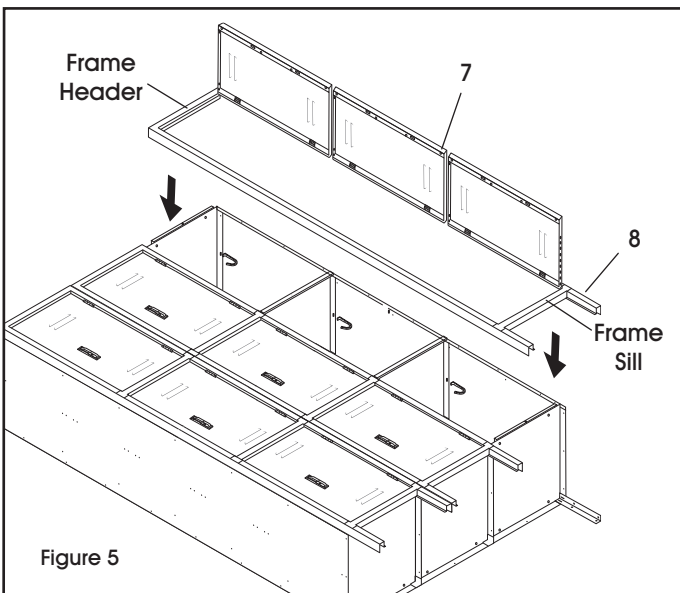

Figure 5
9. Place door and frame assembly (7 and 8) over the locker body. Make certain body sides are inside the frame and not between the frame. Attach top to frame header and bottom to frame sill (one bolt each). Finish by attaching door and frame assembly to the sides of the locker body (bolts will be shared with the door and frame on either side). (See Figure 5) If joining a 3-wide unit beside another unit skip to **JOINING UNITS TOGETHER** below.